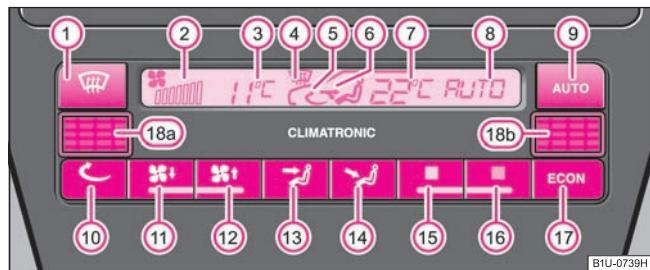

Fig. 97 Climatronic: Control elements
- Press the button **AUTO** ⇒ page 83, fig. 97.
Press and hold the buttons **17 ECON** and **9 AUTO** ⇒ page 83, fig. 97. The information in the desired temperature measuring unit appears in the display.
- Press the button  **⇒ page 83, fig. 97**.
If the windscreens mists up, press the button  **①** ⇒ page 83, fig. 97. After the windscreens have been demisted, press the button **AUTO**. ■
- Press the button **⑪** or **⑫** ⇒ page 83, fig. 97 in order to decrease or increase the speed.